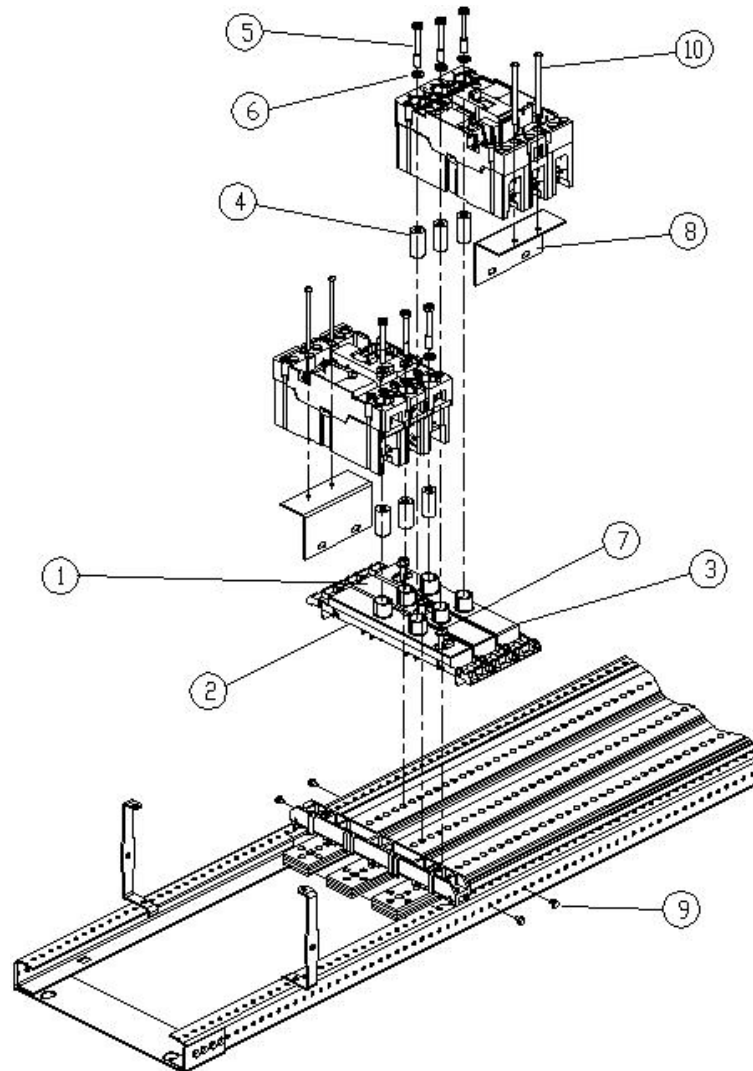
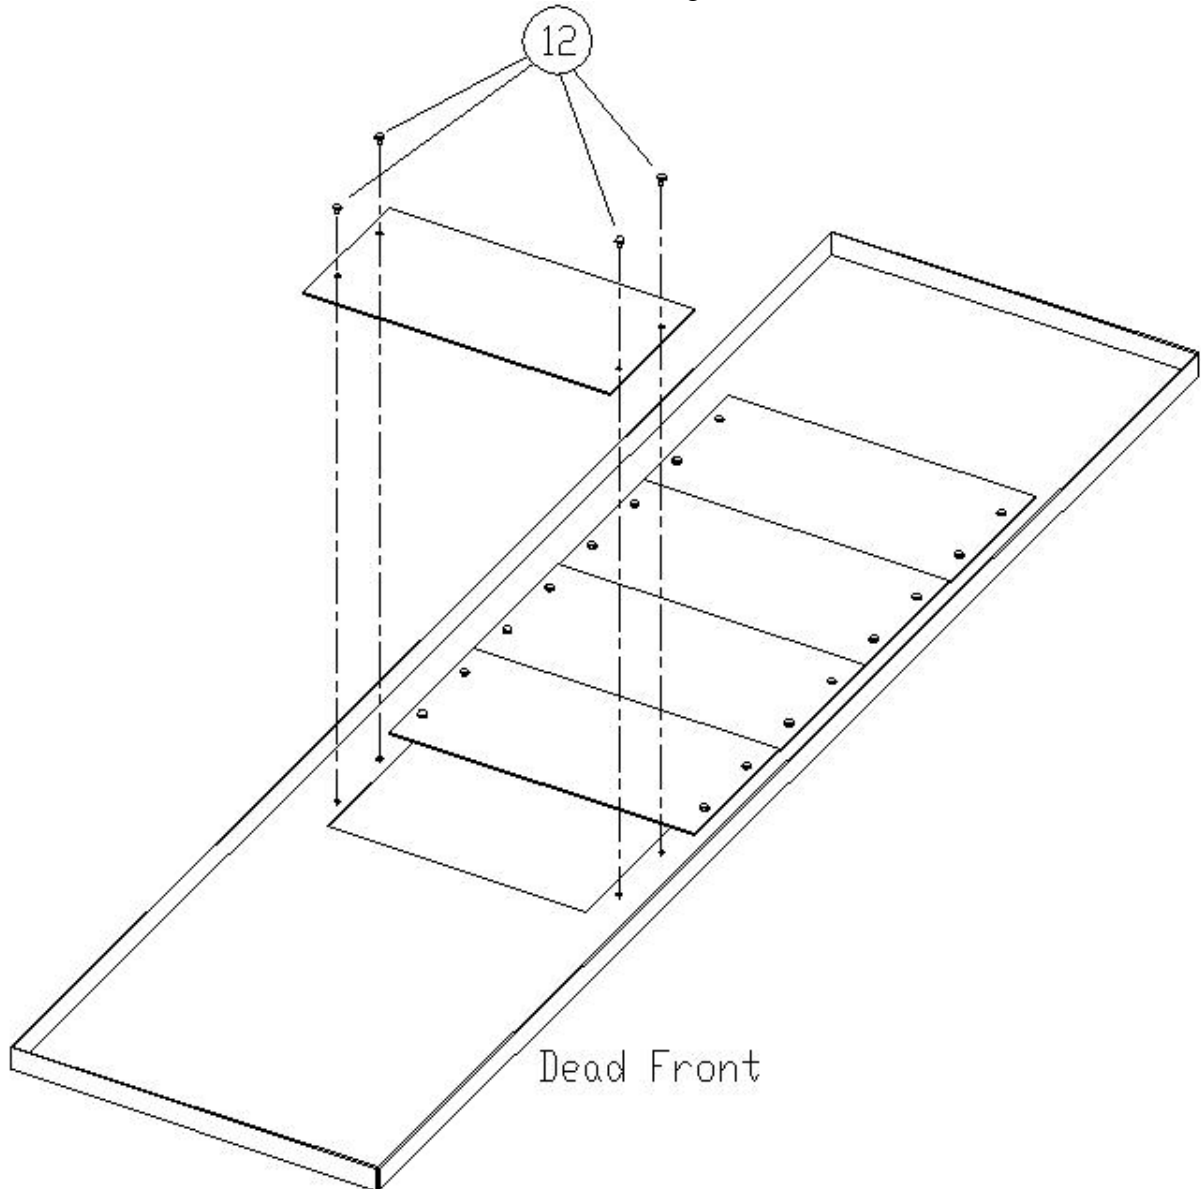

Figure 1. Installation of a FB circuit breaker kit on interior, catalog number ASPP6FB6D, into an A-Series® II Panelboards.
Figure 2. Removing the shield inserts from the shield for FB breaker installation in A-Series® II Panelboards.
Installation of a six-pole kit is illustrated in Figure 1 or Figure 2.
4. Refer fig.no.1 to mount the breaker on interior. Place branch base for A phase [2] adjacent to crossbar [13] as shown in fig.1 and insert the screw [7] through slot provided to mount it to A phase main busbar. Similarly mount B phase branch base [1] to B phase main busbar adjacent to A phase branch base and C phase branch base [3] to C phase main busbar adjacent to B phase branch base. All phase branch bases should be clamped to main bus using screw [7] with 60 in-lb. maximum
- assemble the screws to the spools as shown in Figure 1, with the tapped end of the spool toward the breaker terminal.
9. Remove the four screws [12] of existing filler plate from dead front where FB breaker needs to be installed, as illustrated in Figure 2.